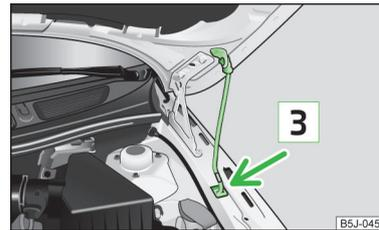

Fig. 125
- Take the bonnet prop out of its bracket and secure the opened bonnet by inserting the end of the prop in the opening **3** » Fig. 125 provided. ▶